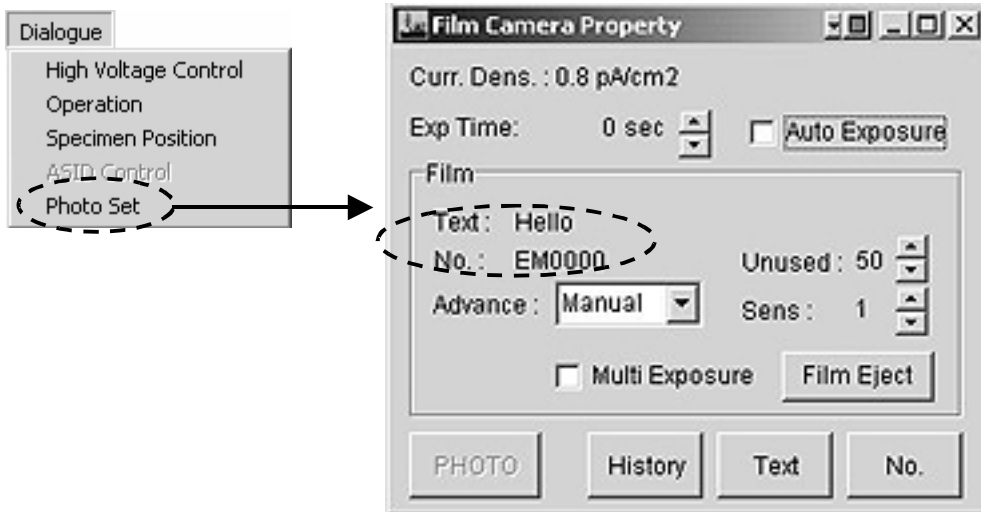

Fig. 5.18 Film Camera Property screen
-  **First, focus the whole binoculars with the focusing knobs, and adjust, if necessary, the interocular distance by changing the distance between the body-tubes, and focus the eyepieces by turning the knurled ring (☞ Fig. 5.18).**
- c. Turn on the IMAGE EOB X or Y (R1-①).
- d. If the beam oscillates or divides into two, manipulate the Z CONT (R1-⑪) to obtain a single stable beam.
- f. If the image appears as a double image, adjust the Z CONT switch (R1-⑪) so as to obtain a single stationary image. The image will appear as a double image if the image is under-focused or over-focused.
- g. Turn off the IMAGE WOBB X or Y switch (R1-①).
10. Manipulate the BRIGHTNESS knob (L1-⑥) to set the exposure time shown on "Exp. Time" on the center main screen (☞ Sect. 4.4.4b) to an optimum value.
11. Depress the PHOTO switch (R1-⑧) with the small screen placed in the electron beam path after the built-in lamp in the PHOTO switch lights up (that is, the film moves to the photographing position).